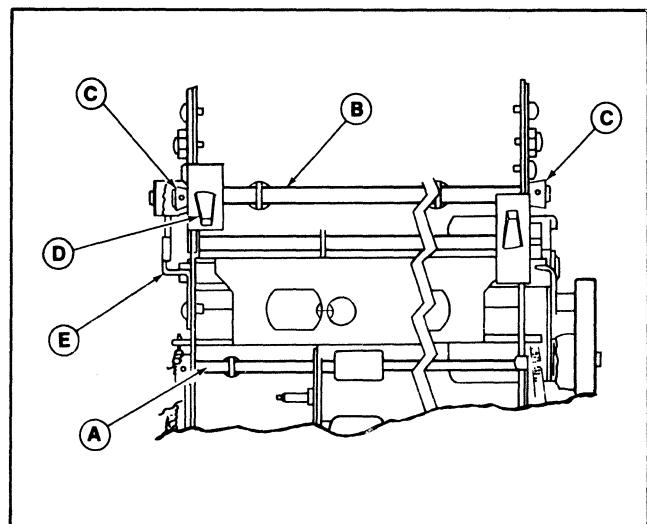

Figure 3-7. Carrier Assembly Adjustment
- (1) Carrier Assembly Bias Shaft, Figure 3-7, item (A). Check for axial movement = .001 in. \pm .0005 in. (.03 mm \pm .01 mm). Adjust the collar at (A) as required to achieve this dimension.
- (2) Platen Position Torque Shaft, Figure 3-7, item (B). Check that the setscrews in the eccentric collars (C), at each end of this shaft are aligned vertically with each other when the platen position lever is full forward, and that the shaft end play = .002 in. \pm .001 in. (.05 mm \pm .03 mm). Adjust the collars for the proper clearance. Note, however, that failure of the collars to align vertically indicates a twisted shaft, which will affect several platen adjustments.
- (3) Platen Position Lever, Figure 3-7, item (D). Move the lever back and forth. A positive detenting force must be felt for all positions. Adjust the detent plate (E), as necessary to achieve an even detenting action. The carrier assembly must move equally at both ends in increments of .005 in. \pm .002 in. (.13 mm \pm .05 mm) between detent positions.